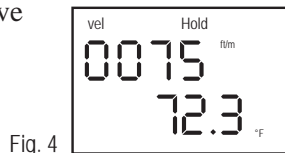

Fig. 4
3. After you see the reading in the LCD, press HOLD/ADVANCE. Release the button when you hear a single beep. The LCD will show HOLD above the reading (fig. 4).